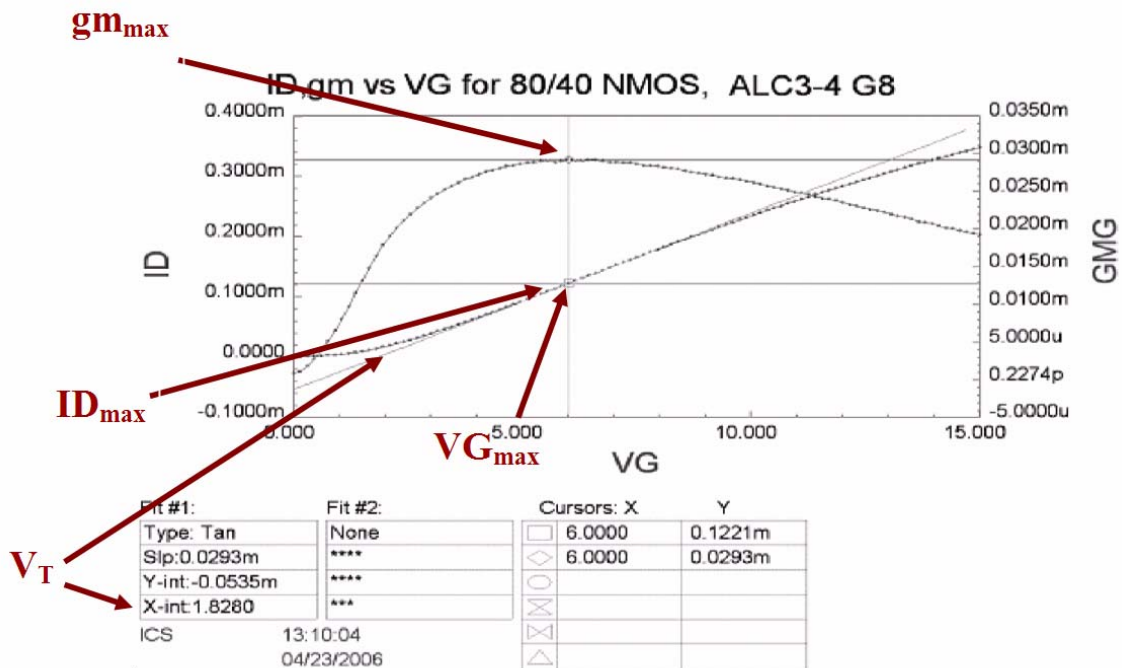

Figure 42: Measuring V_t by observation
15. V_t can also be measured by observation of the following, see Figure 42. V_t is where the tangent line crosses the x-axis and also shown in the table below.